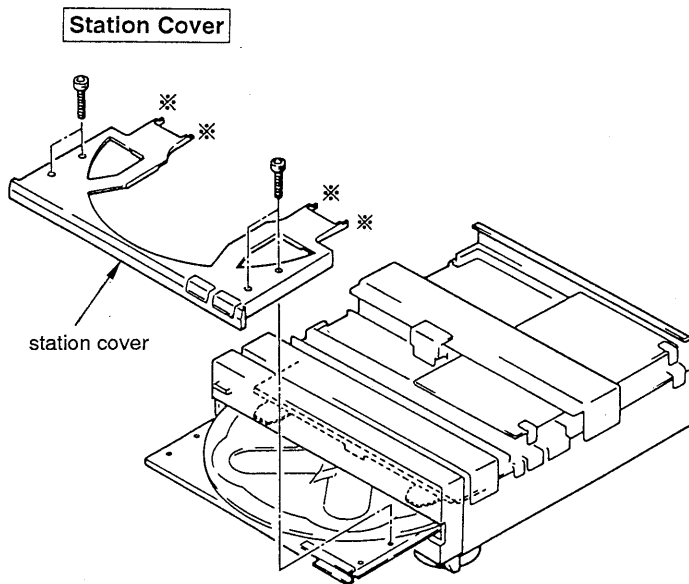

Fig. 6
3. Slide the station cover further to the end inserting the four ※ marks on figure 6 under the chucking bracket.